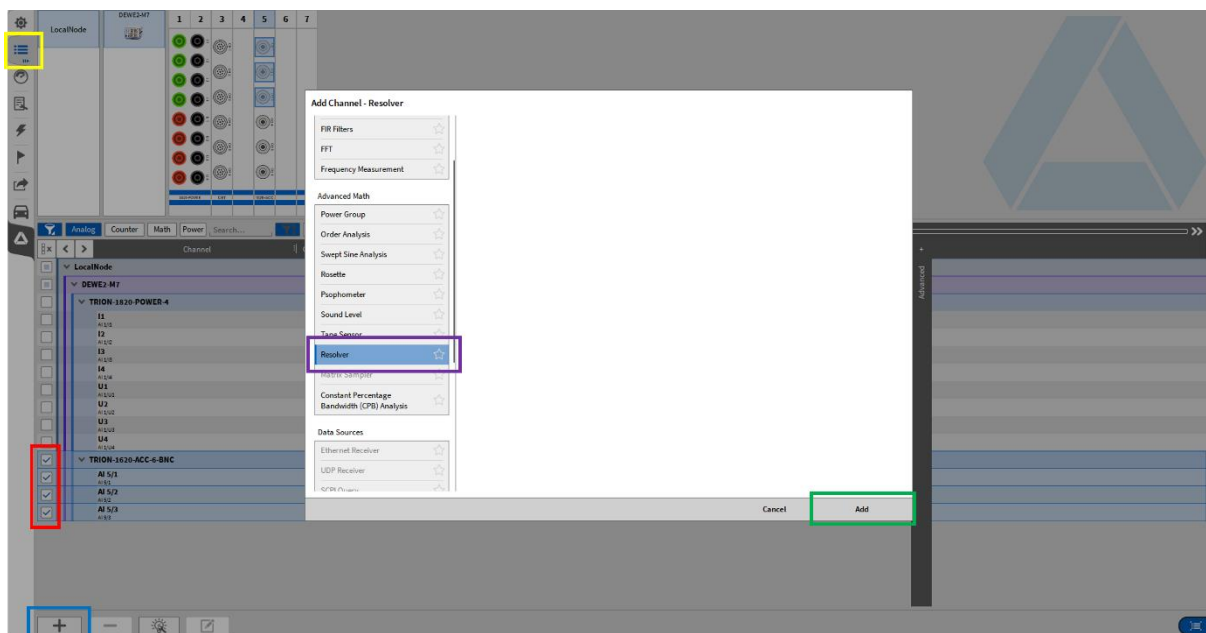

Figure 3-1: Adding a Resolver in OXYGEN
- Start OXYGEN and Open the Channel List (see yellow box in Figure 3-1)
- Select 3 signals **sin**, **cos**, **excitation** analog signals (see red box in Figure 3-1) **or** select 2 signals sin envelope, cos envelope
- Click on the + button on the bottom left (see blue box in Figure 3-1)
- Click on Resolver in the Advanced Math group (see purple box in Figure 3-1)
- Click on the Add button (see green box in Figure 3-1)